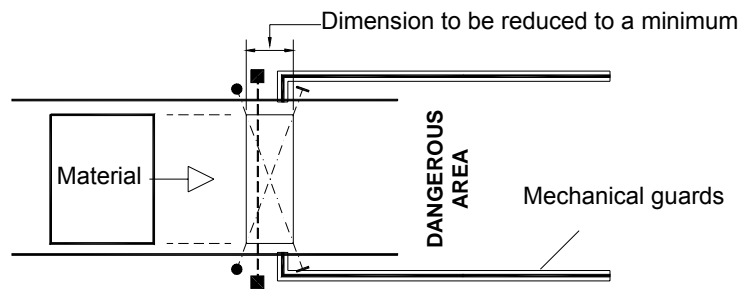

Figure 12
- the zone identified by the points of interception and clearing of the beams of sensors 1 and 2 by pallet **must be limited as far as possible (or suitably protected)** so as to avoid the possibility of accidental passing through the light curtain with Muting active (Figure 12).